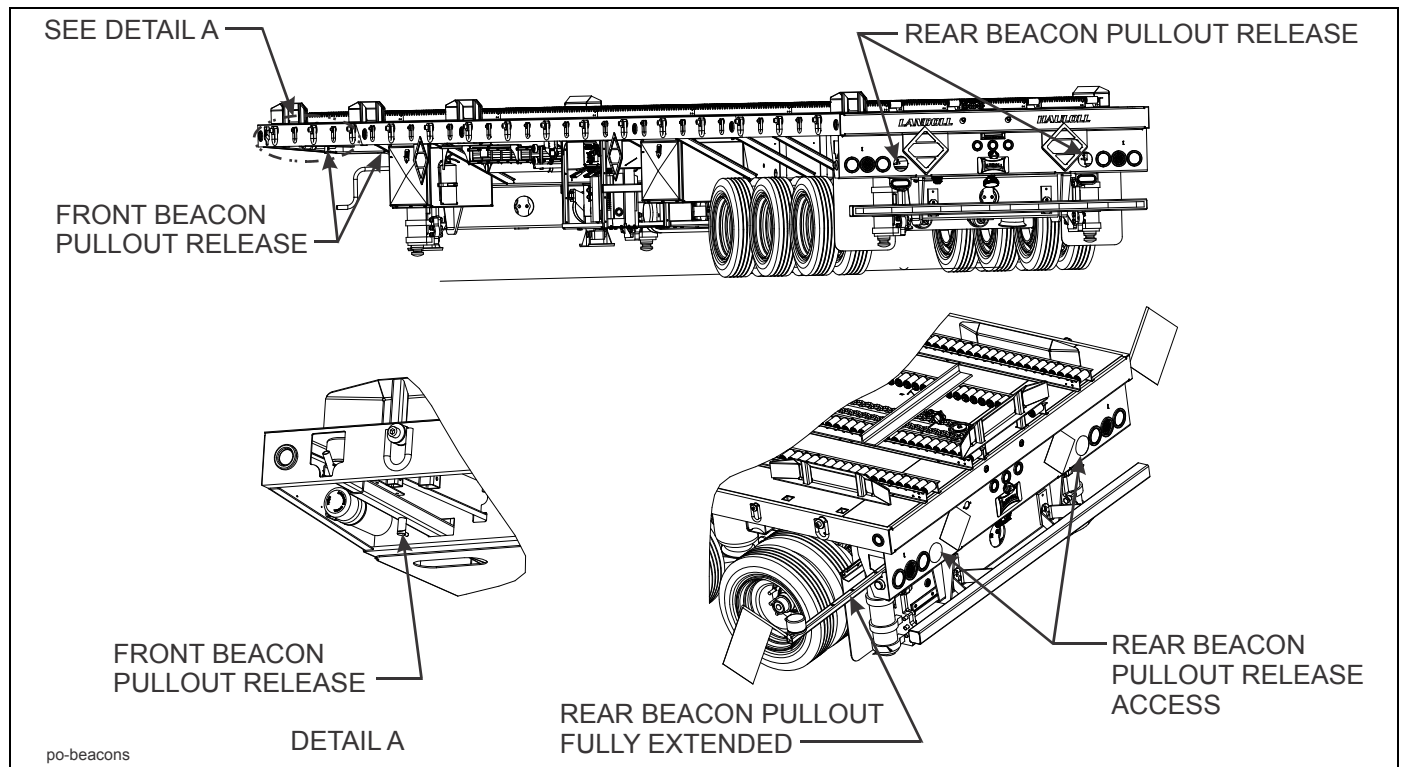

Figure 3-8: Pullout Beacon Stored and Transport Position
2. The pullout locks are released and the pullout slid the designated distance and locked into place (**See Figure 3-8.**)